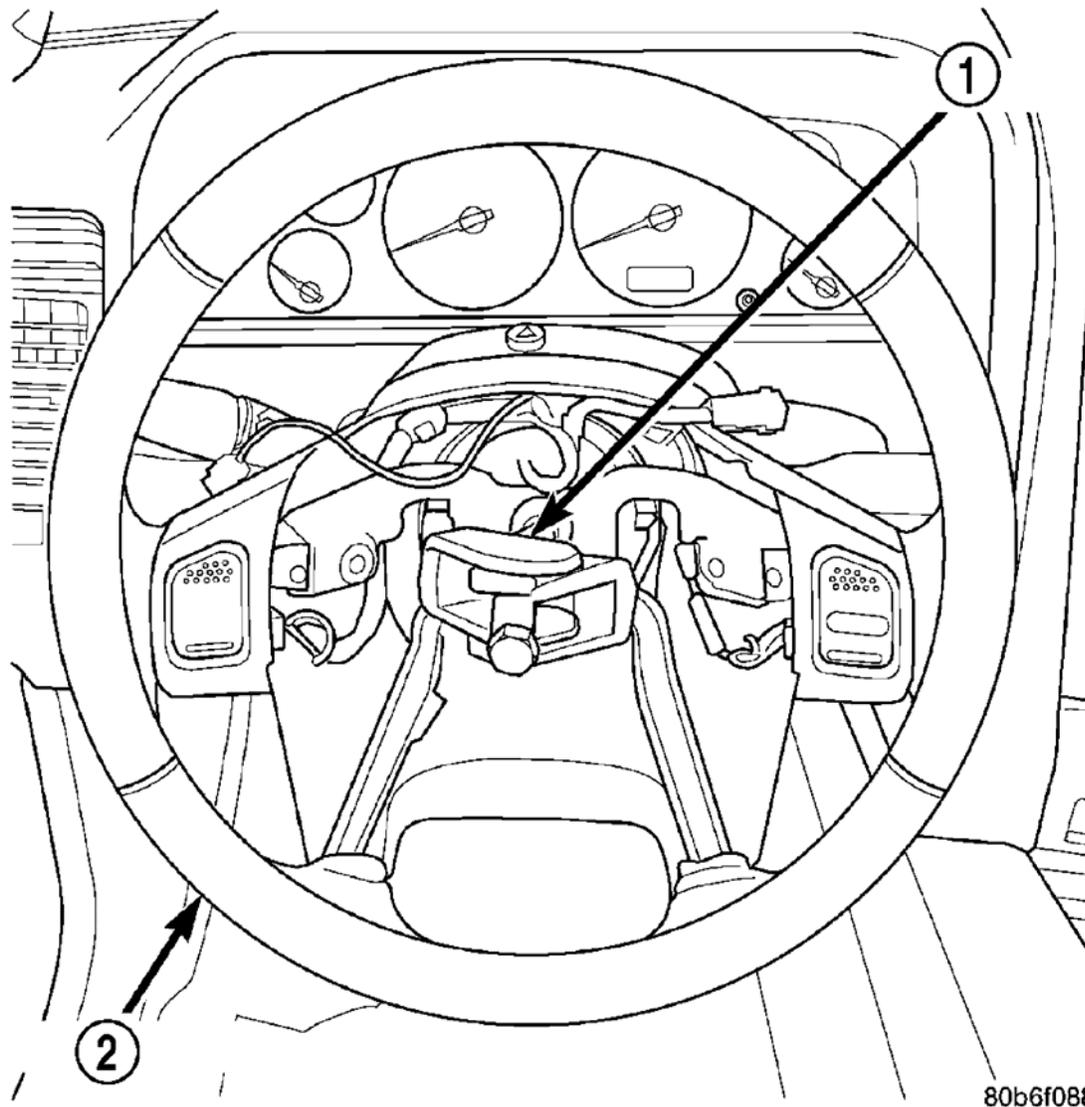

Fig. 6: Steering Wheel Puller
4. Remove the steering wheel (2) with puller C-3894-A (1) or an appropriate puller. See **Fig. 6**. See **REMOVAL**.